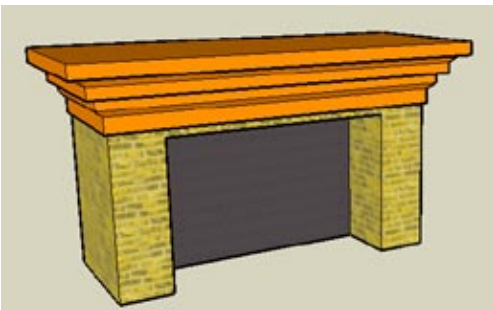

Figure 2-16
5. Add some lines and erase any extra lines, to fix the mantel top (Figure 2-16).